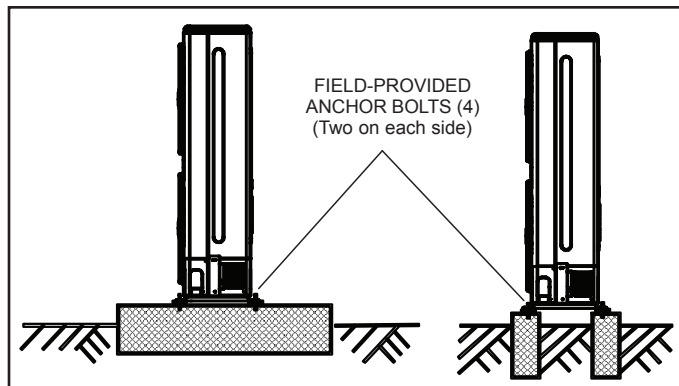

Figure 1. Securing Outdoor Unit to Slab
- Use lag bolts or equivalent to secure the outdoor unit to the slab or frame. Figure 1.